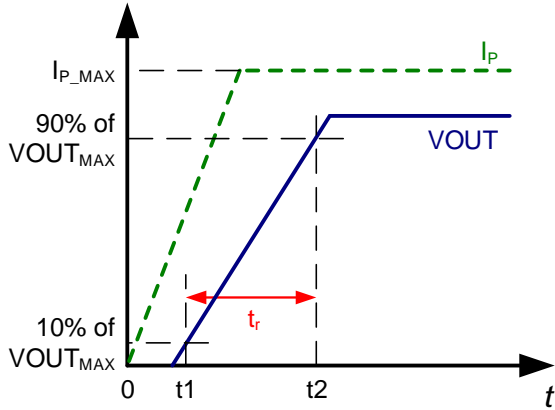

Figure 7: Rising Time (t_R)
2. t_2 : The sensor's V_{OUT} reaches 90% of its full scale value (see Figure 7).